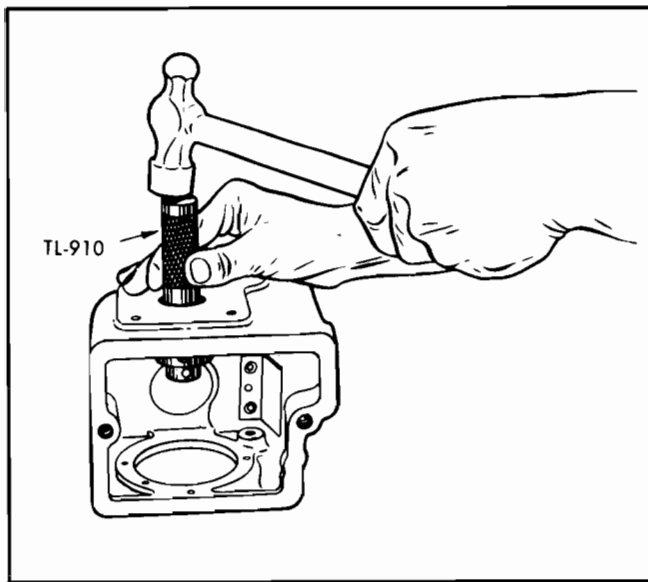

Figure No. 51—Driving Bearing from Block
2. Drive the old bearings out of the cylinder block, using the main bearing driver(s)—TL-910 (Four Cycle Engines), TL-924 (Two Cycle Engines). (See Figure No. 51.)